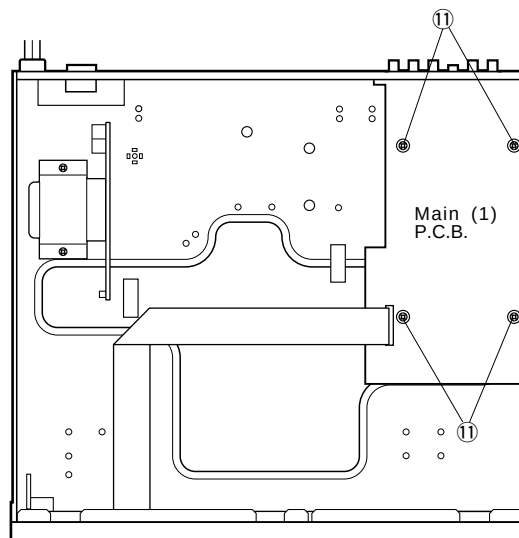

Fig. 6
- Remove 4 screws (⑪) in Fig. 6.
- Pull out the Main (1) P.C.B.